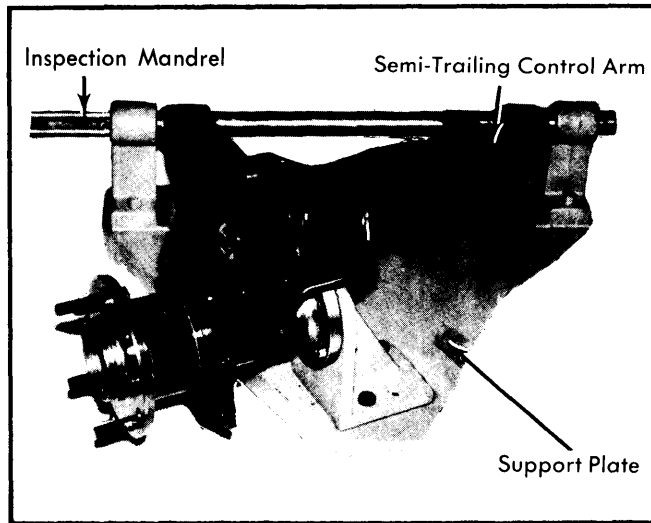

Fig. 3 Trailing Arm Fitted to Support Plate to Check Alignment
2) Check trailing arm alignment. Place arm in support plate. See Fig. 3. Slide inspection mandrel through control arm to crossmember mounting bushings bores (bushings removed). If control arm is out of alignment it can be straightened if there is no other damage to arm.